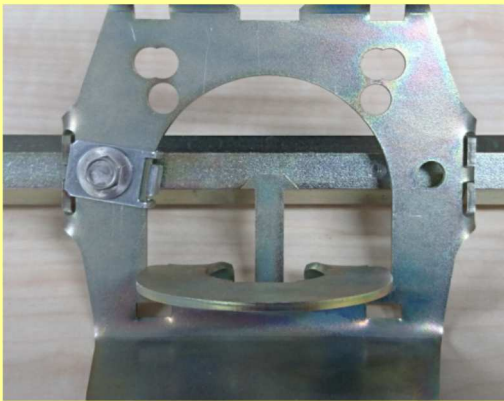
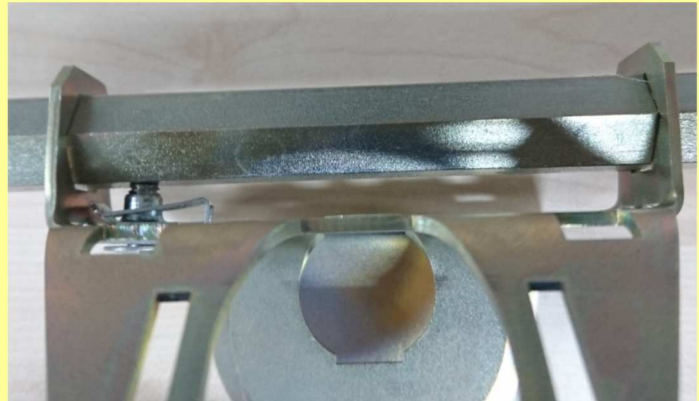

Figure 5
Figure 6
- To prevent the dispersion plates from sliding to the sides on the hexagonal shaft, fasten the dispersion plates with the supplied plate nuts and bolts (see Figure 5 and Figure 6).